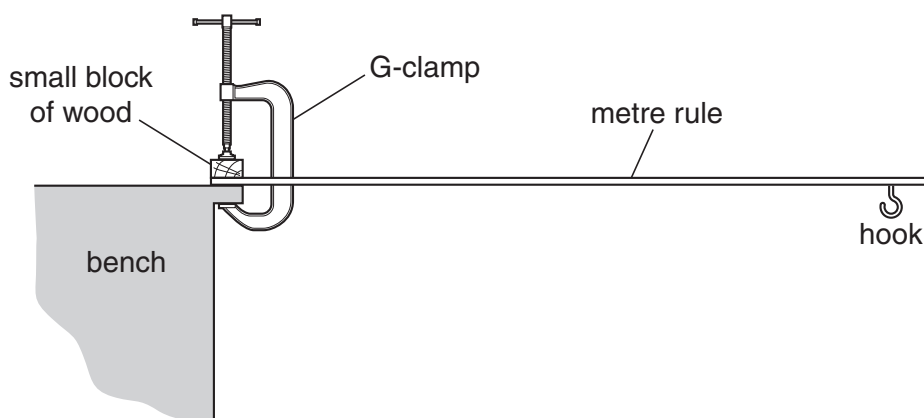

Fig. 4.1
2. The Supervisor should clamp the wooden metre rule at the edge of the bench, as shown in Fig. 4.1. The rule should be clamped at the 5.0 cm mark so that 95.0 cm of the rule overhangs the bench. The edge of the block of wood should be at the 5.0 cm mark above the rule and the edge of the bench should be at the same point below the rule so that a well defined edge is produced. The block of wood should be held in place by the G-clamp.